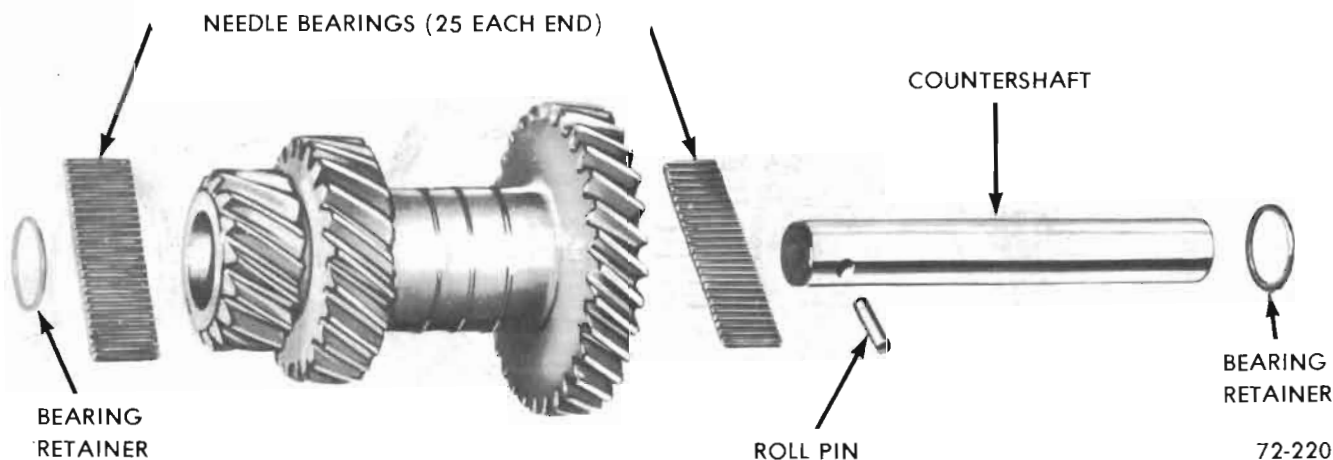

Figure 72-88 - Exploded View of Countergear
2. Assemble the countergear alignment Tool J 21775, bearings, thrust washers, and place in bottom of case. The countergear will remain in the bottom of the case until the mainshaft and main drive gear have been installed. See Figure 72-88.